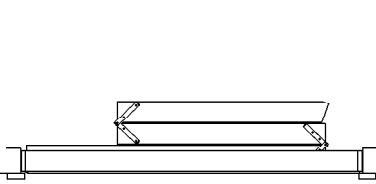

fig 14
2. Lift the stairs through the opening into the attic space. Then lower them down squarely into the opening so the frame of the stair rests on the temporary cleats (figure 14). This is normally best done from below and can be done by one person, but it is very much easier and safer with two people.